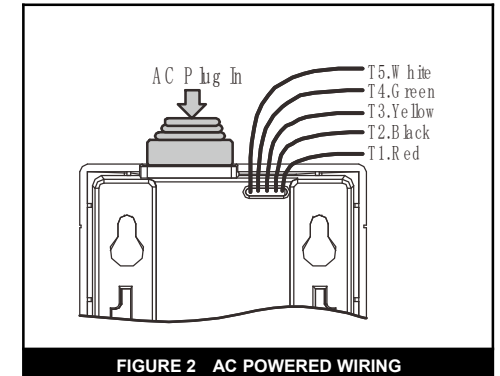

FIGURE 2 AC POWERED WIRING
Detector Terminals Wires Description (Control Output Module) (see Figure 2).
- Alarm: While detecting the gas leaking reach the alarm level, the sensor Red Alarm LED would turn on and the buzzer sound. while the unit's will output relay contacts output(relay output module), or output signal for electric valve or electric hand. (See Figure2).